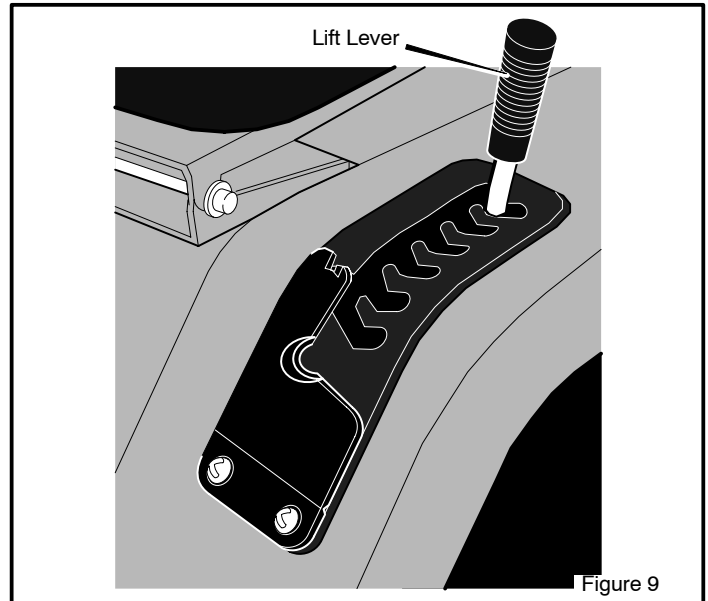

Figure 9
1. Move the **lift lever** forward to lower the mower housing and back to raise the mower housing (Figure 9).